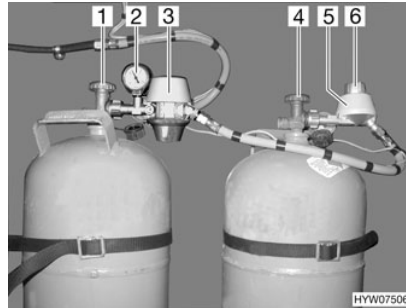
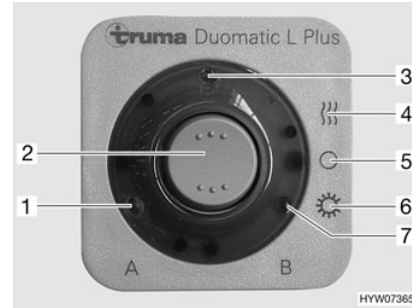

Fig. 51 Duomatic switching facility
Fig. 52 Operating unit
The Duomatic switching facility consists of a central regulator (Fig. 51,3) and a switching regulator (Fig. 51,5). The knob (Fig. 51,6) on the switching regulator is used to select which of the gas bottles is to be used as a primary bottle and which is to be used as a reserve bottle.
The manometer (Fig. 51,2) on the central regulator indicates the pressure in the gas bottle, not the filling level of the gas bottle. The manometer can be used to test the impermeability of the gas bottle.
Only the electrical functions can be switched at the operating unit (Fig. 52). The regulator taps on the gas bottles (Fig. 51,1 and 4) must be opened manually.
- Open the regulator taps on the gas bottles (Fig. 51,1 and 4).
- Use the knob (Fig. 51,6) on the switching regulator (Fig. 51,5) to select the gas bottle which is to be the primary source of gas (primary bottle). Always turn the knob as far as it will go. When the knob is in the red area, the gas is taken primarily from the gas bottle with the central regulator (Fig. 51,3). When the knob is in the green area, the gas is taken primarily from the gas bottle with the switching regulator (Fig. 51,5).
- Switch on the Duomatic switching facility at the operating unit (Fig. 52). To do so, set the rocker switch (Fig. 52,2) to winter operation "On and heating" (Fig. 52,4) or to summer operation "On" (Fig. 52,6). Both gas pressure regulators are now ventilated. The operating indicator (Fig. 52,3) lights up.
- Set the rocker switch (Fig. 52,2) to "O" (Fig. 52,5). The operating indicator (Fig. 52,3) goes out.
- Close the regulator taps on the gas bottles (Fig. 51,1 and 4).
The indicator lamps on the operating unit (Fig. 52) indicate in the vehicle interior whether the gas bottles are ready for operation.
- Indicator lamp "A" (Fig. 52,1): Gas bottle on the central regulator
- Indicator lamp "B" (Fig. 52,7): Gas bottle on the switching regulator